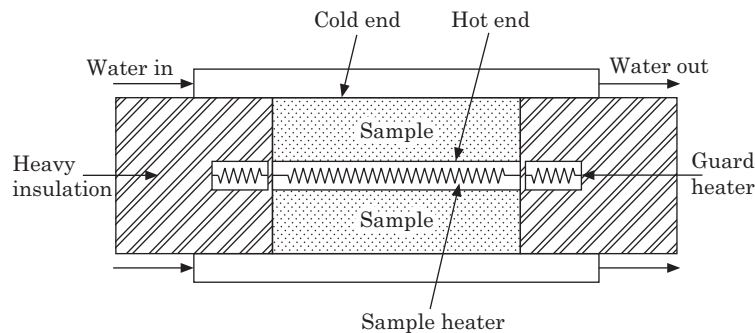

Fig. 1.5 Guarded hot plate apparatus.
1.5.3 Guarded Hot Plate Apparatus for Measurement of Thermal Conductivity. This is a standard method for measurement of thermal conductivity of insulating materials. Two identical test samples (Fig. 1.5) are taken, placed on each side of a hot plate and identical cooling units are in turn clamped against the outside faces of these samples. This hot plate is surrounded by guard sections which are maintained at the same temperature as the central plate so that edgewise heat flow from the test area is prevented. The heat generated in the central hot plate therefore flows equally through the two samples. The temperatures at the hot and the cold faces of both the samples are measured. Knowing the heat generated in central heating plate, its area, the thickness of the test samples and the temperatures at their hot and cold faces, the value of thermal conductivity can be computed.